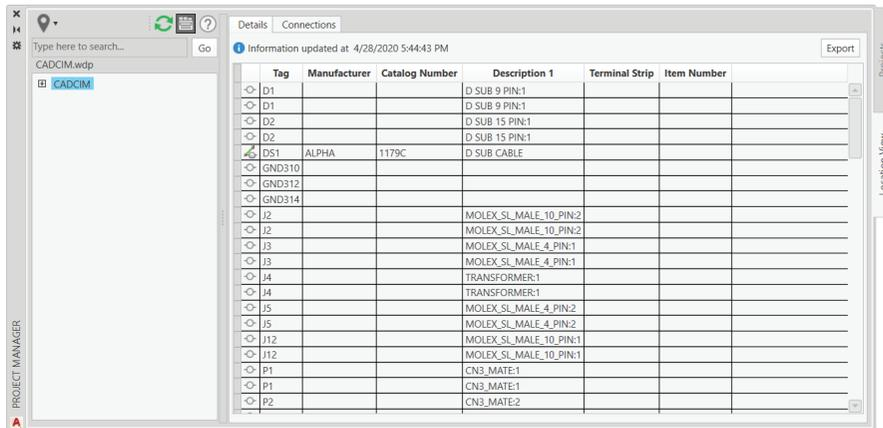

Figure 2-79 Expanded PROJECT MANAGER
- Make sure the **CADCIM** project is activated. Choose the **Location View** tab from the **PROJECT MANAGER**. Next, choose the **CADCIM** node from the **PROJECT MANAGER**. Next, choose the **Display Details and Connections** button; the **PROJECT MANAGER** is expanded with the **Details** tab activated, as shown in Figure 2-79.